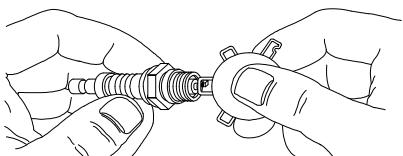

Figure 4-5. Spark Plug
4. See **Figure 4-5**. Inspect electrode gap with feeler gauge and reset spark plug gap to 0.6 - 0.7mm (0.024 - 0.028 in).